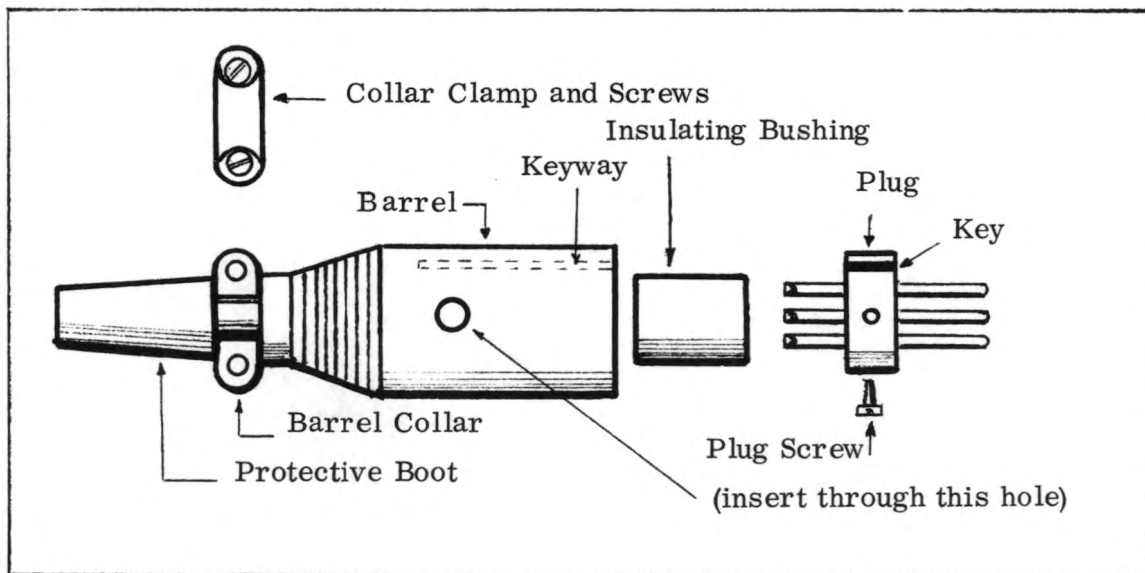

Fig. 14 INSTALLATION OF CANNON PLUG
- 4.3 For connection of the audio source to the AUDIO IN " Cannon " jack on the modulator rear panel a separately procured " Cannon " plug is required. Installation of the this plug is as follows (see Fig.14) :